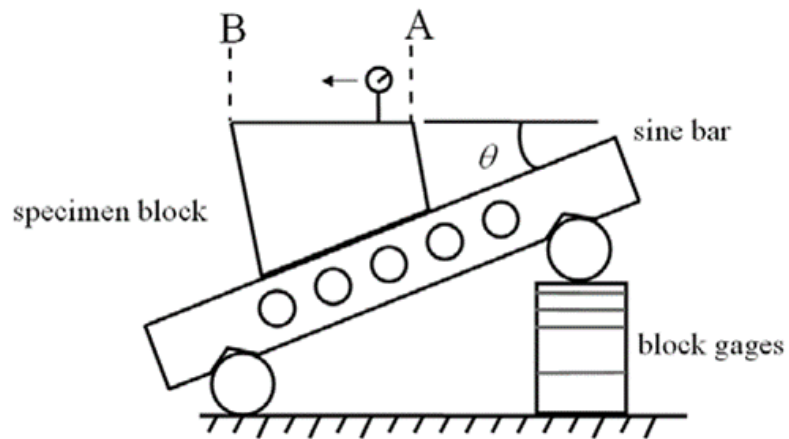

Figure 2[a]
2. [a] A sine bar of length  $L = 300$  mm (distance between rollers) is used to measure angle  $\theta$  on a specimen block as shown in Figure 2[a]. The reading of the dial indicator at point A is 0 mm and the reading at point B is -0.009 mm. The distance between points A and B,  $d = 50$  mm. The block gages have a stacked height of 56.780 mm. Prove that the correction to gage block height,  $\Delta h = \Delta h_{AB} \times (L \times \cos \theta) / d$  where  $\Delta h_{AB}$  is the difference in dial reading.